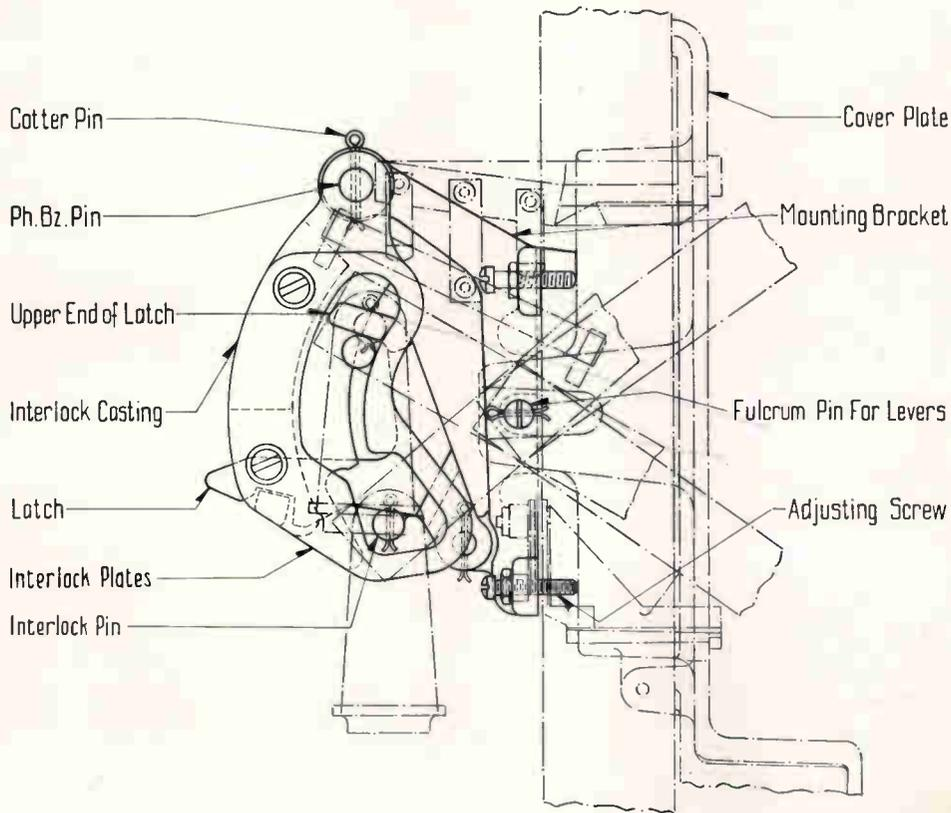

FIG. 27—MECHANICAL SEQUENCE INTERLOCK
**Interlock**—The mechanical sequence interlock can be mounted on a double handle coverplate only. The brackets for the sequence interlock are held in place by a special pin which replaces the fulcrum pin of the handles, omit spacing washers for handle on one side of each handle only. The adjusting screws at top and bottom should be adjusted so that there will be no binding between the cam shaped slot and the interlock pins on the coverplate lever. The interlock pins replace the standard pins for the rod ends. See Fig. 27.
(Fig. 27) With both sides of the circuit-breaker in the open position, the following operation should take place in putting the motor on the line with full voltage across the terminal. First, the starting handle is closed applying reduced voltage across the terminal on the motor. The upward motion of the